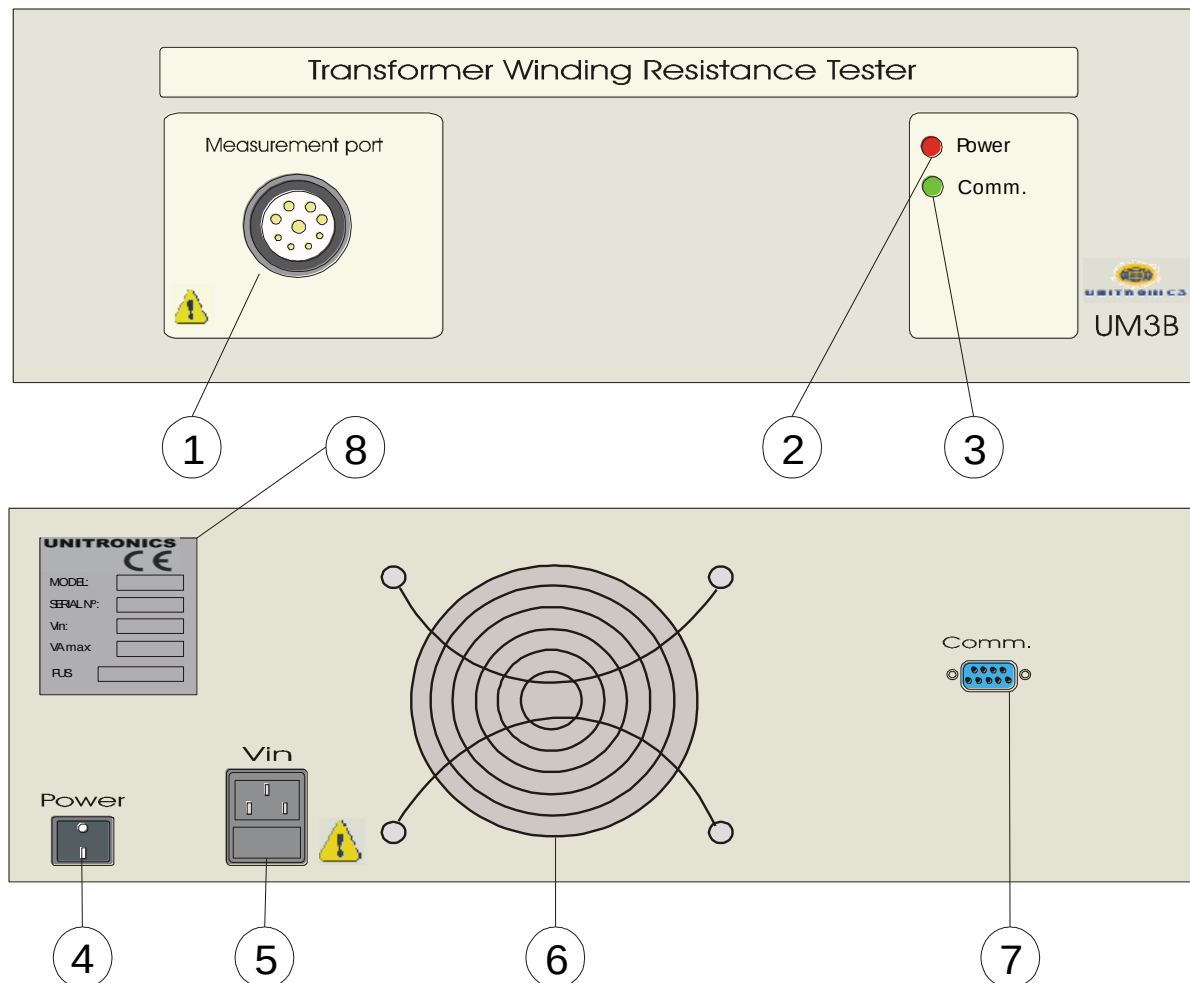
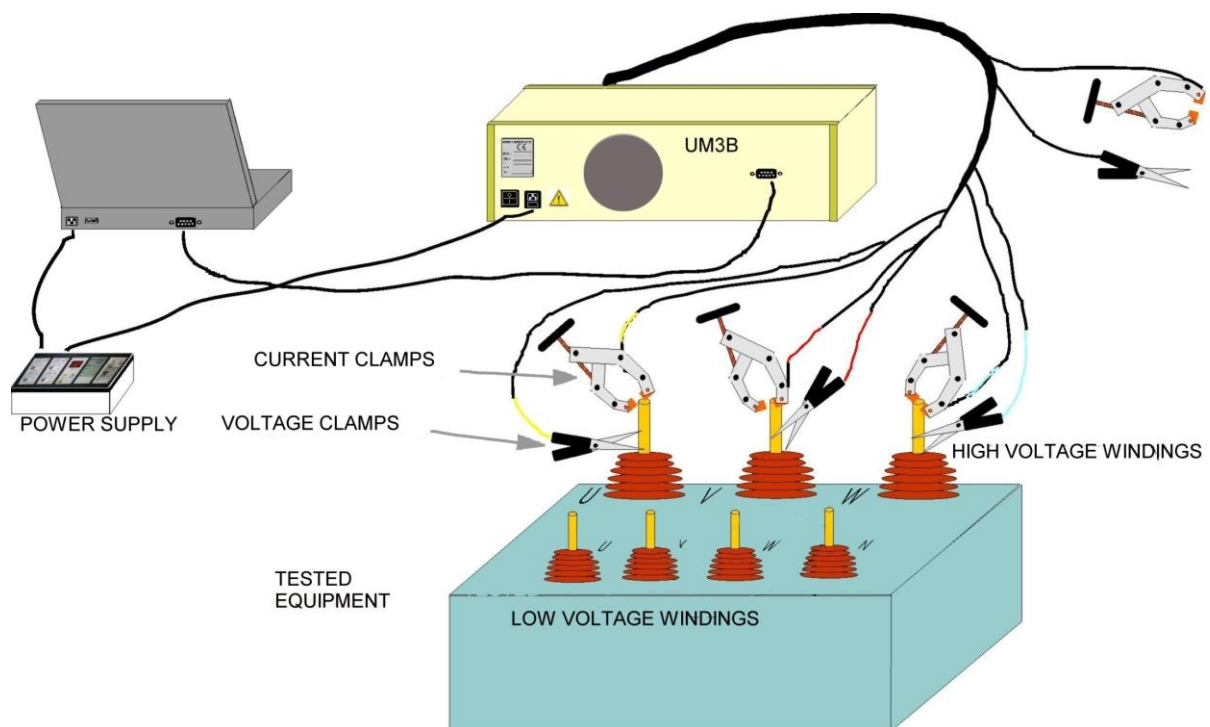

Figure 3-10: Explanatory diagram of UM3B unit.
Figure 4-1: Explanatory diagram of the interconnection of components for a test.
Figure 3-10 includes a drawing of the UM3B unit, the upper part being the front panel and the lower the rear panel. The function of each of the unit elements is described below.
- Place the measuring unit and the control computer near the equipment to be tested, as shown in Figure 4-1.
For the performance of tests, the measuring unit and the control computer should be located close to the equipment to be analysed, as indicated in Figure 4-1. To start up the equipment, the following instructions should be followed, in the order indicated (references are included in brackets to the different elements on the panels in Figure 3-10):